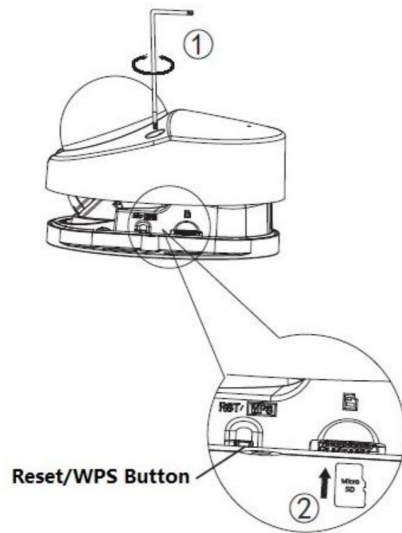

Figure 2-5
**Step 2** Slightly press the RESET button for 15-30 seconds to complete the reset function. See Figure 2-5. The camera will reboot when the reset process is complete.